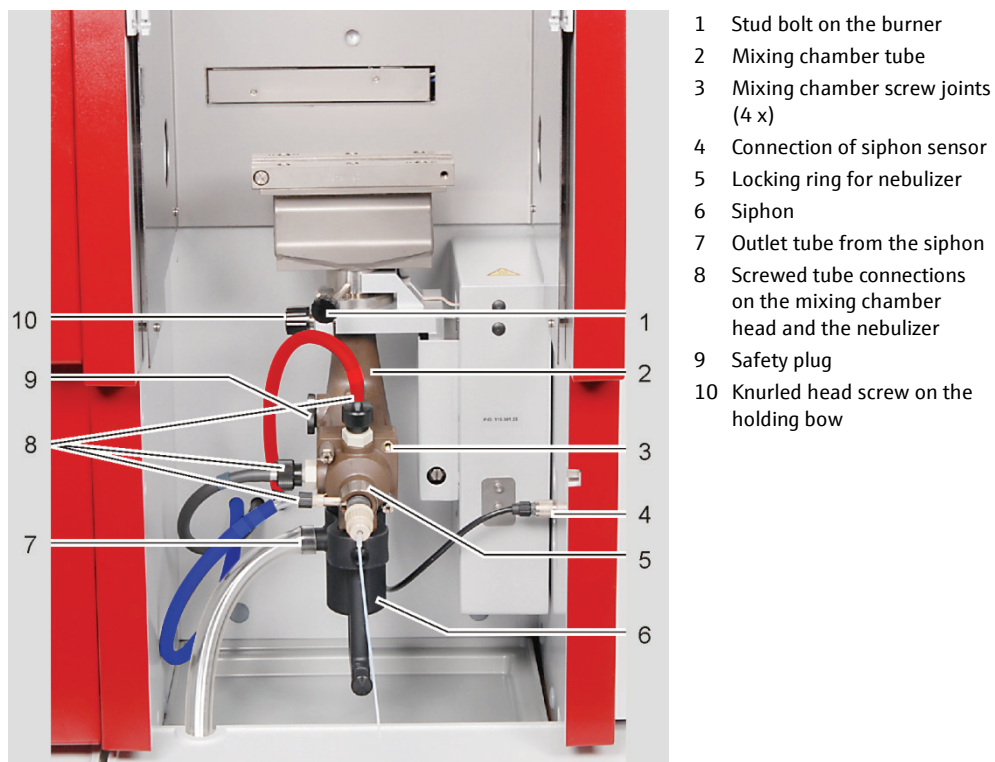

Fig. 59 Remove and disassemble the burner-nebulizer system I
1. Loosen the stud bolt (1 in Fig. 59 p. 89) on the burner and remove the burner from the connector.
2. Unscrew the screwed tube connections on the mixing chamber head and the nebulizer (8 in Fig. 59) and pull off the tube from the nebulizer connector.
3. Turn the locking ring of the nebulizer (5 in Fig. 59) to open the locking. Withdraw the nebulizer from the mixing chamber head, holding the nebulizer in the groove (Fig. 61).
4. Unscrew the connection of the siphon sensor (4 in Fig. 59) on the rotating arm and pull it off.
5. Pull off the outlet tube from the outlet connector of the siphon (7 in Fig. 59).
9. Hold the system tightly, loosen the knurled head screw on the holding bow of the mixing chamber tube (10 in Fig. 59), rotate the holding bow backwards and remove the system.
11. Loosen the four screw joints of the mixing chamber (3 in Fig. 59) and disassemble the mixing chamber into the chamber head and the chamber tube.
3. Stick the mixing chamber parts (chamber tube and chamber head) together, align the sides so that they are flush and screw (3 in Fig. 59 p. 89).
8. Fasten the mixing chamber nebulizer system at the height adjustment using the holding bow (10 in Fig. 59). The marking must be above the edge of the holding fixture. Screw the knurled head screw at the holding bow tightly.
9. Plug the cable of the siphon sensor (4 in Fig. 59) into the connection on the rotating arm (take care with the lug) and screw tight.